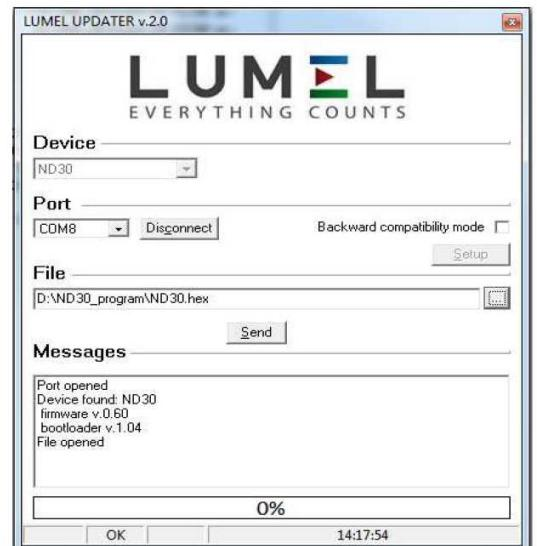

Fig. 25. Program window view: a) eCon, b) software upgrade
After launching eCon software, set in the settings required serial port, baud rate, mode and address of the meter. Next, select the ND30BAC meter and click *Config*. Click the down arrow icon to read all of the settings then the disk icon to save the settings to a file (required to restore the settings later). After selecting the option *Update firmware* (in the upper right corner of the screen) the window *Lumel Updater (LU)* will be opened – Fig. 25. Click *Connect*. The *Messages* information window displays information concerning upgrade process. If the port is opened correctly, a *Port opened* message appears. Upgrade mode is enabled using either of the two methods: remotely via LU (using eCon settings: address, mode, baud rate, COM port) and by turning a meter on while pressing the button (while entering bootloader mode the button is used to set communication settings: baud rate 9600, RTU8N2, address 1). The display will show the bootloader version, while the LU program displays the message *Device found* and the name and version of the connected device. Click the "... "button and browse to the meter upgrade file. If the file is opened correctly, *File opened* message is displayed. Press the *Send* button. When upgrade is successfully completed, the meter begins normal work while the information window displays *Done* message and upgrade elapsed time. After the LU window is closed, go to parameter group *Service parameters*, select the option *Set default settings of a meter* and press a button *Restore*. Then press the folder icon to open a previously saved settings file and press the up arrow icon to save the settings in the meter. Current software version can be checked by reading the welcome message when switching the meter on.